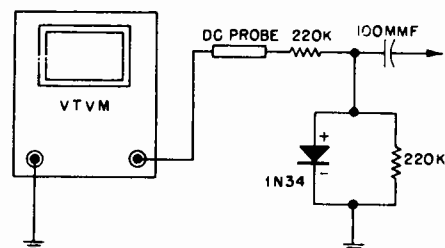

FIGURE 6. ELECTRONIC VOLTMETER CONNECTIONS
2. Connect the voltmeter and the germanium crystal detector, as shown in Figure 6, between the cathode of the picture tube (yellow lead) and chassis.